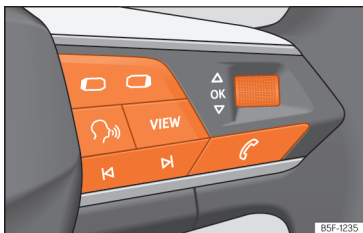

Fig. 15 Right side of multifunction steering wheel: buttons to the menus and informative indications on the instrument panel (depending on the version).
As long as a priority 1 >>> page 27 warning is active, it will not be possible to access any menu. Some warnings can be confirmed and hidden with the button **OK** of the multifunction steering wheel >>> Fig. 15.
- If a message or vehicle symbol is displayed, press the button **OK** >>> Fig. 15; several times if necessary.